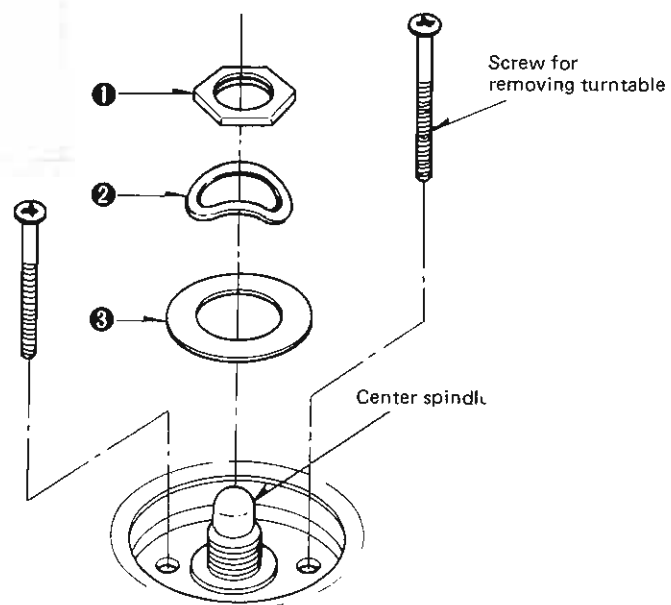

Fig. 5
2. Remove the nut ① and washers ②, ③ which secure the turntable. (See Fig. 5)